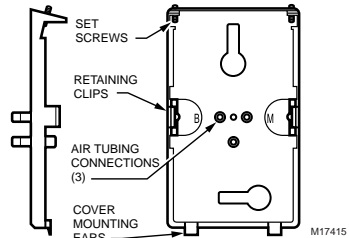

Fig. 5. Backplate.
- d. To remove thermostat cover, slowly drive screws clockwise until cover is free. To remove thermostat from backplate, spread retaining clips and separate (see Fig. 5).
7. Press thermostat onto backplate until it is fully seated and backplate clips have engaged (see Fig. 5).
**NOTE:** Ensure window orientation is correct. When viewed from front of cover, setpoint and Day/Auto openings are on either the bottom (vertical thermostat) or the right (horizontal thermostat). The cover has slots which must mate with backplate mounting ears (see Fig. 5).